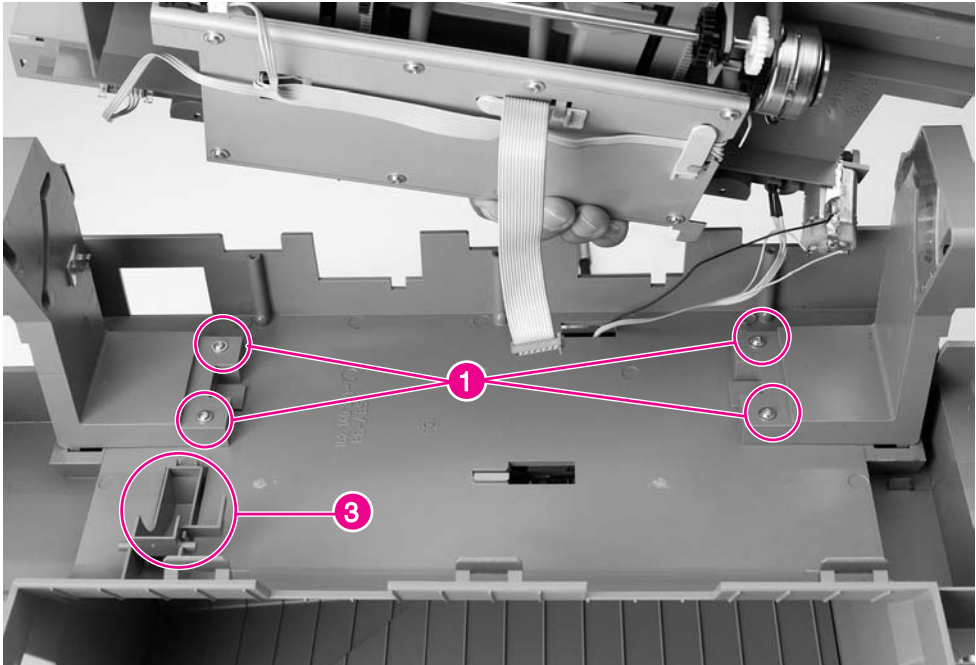

Figure 6-189 Hinges
Make sure that the actuator is oriented as shown in its proper place before replacing the Stapler Bed Assembly (see figure 6-189 on page 427, callout 3).
- 5 Remove 2 screws joining each hinge to the housing (see figure 6-189, callout 1).